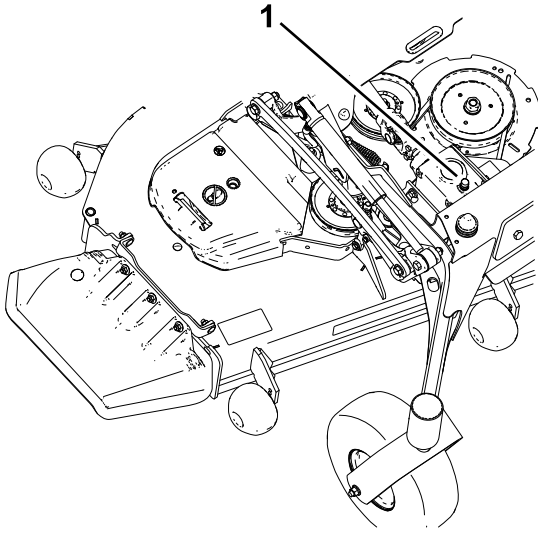

Figure 42
6. Remove the dipstick/fill plug from the top of the gearbox and make sure that the lubricant is between the marks on the dipstick (Figure 42).